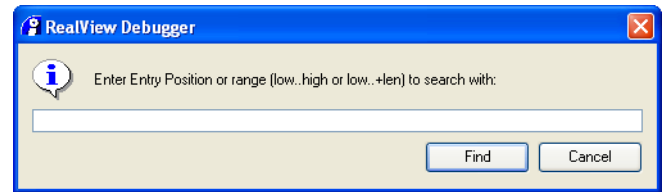

Figure 9-7 Finding a position match
1. Select **Find Position...** from the **Find** menu to display the Prompt dialog box. Figure 9-7 shows an example: